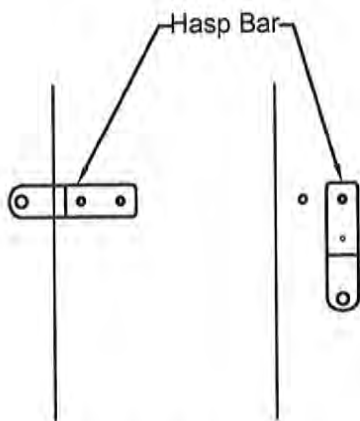

Figure 10.1 Hasp Bar
- 10.3 Rotate the hasp bar and install the front screw through the hasp bar and tighten both screws, see Figure 10.1.